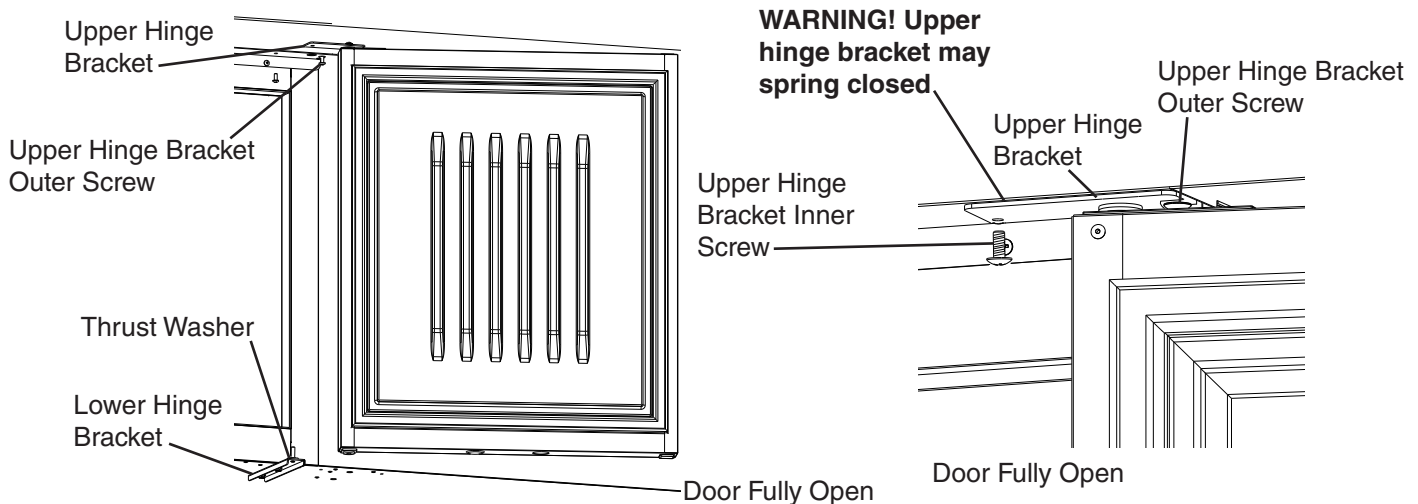

Fig. 31
- 16) Be sure the lower hinge bracket thrust washer is in place, then place the door on the lower hinge bracket in the fully open position. Slide the door upper hinge bracket outer slot onto the upper hinge bracket outer screw. See Fig. 31.